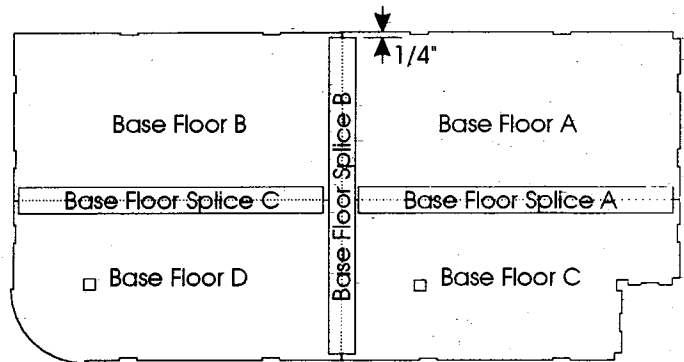

Figure 6
3. Turn Base Floor assembly over. Glue and tape Base Floor splices into position on bad side as illustrated in Fig.6. Allow to dry.